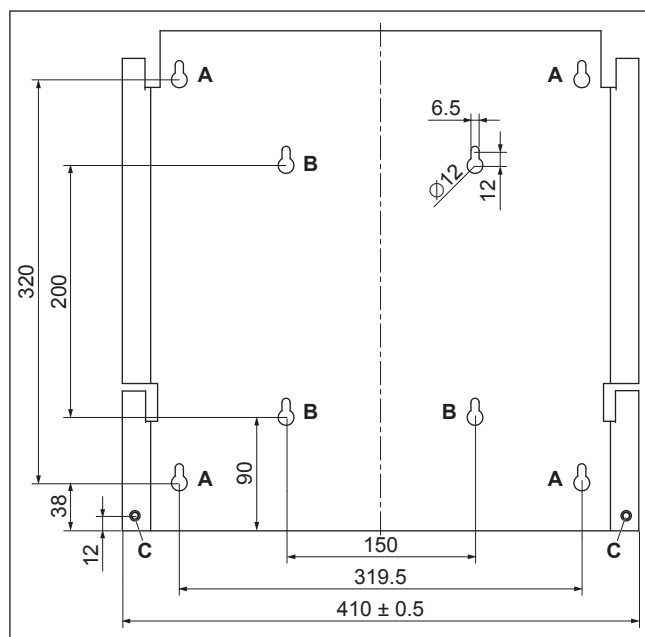

Fig. 7.3.: Dimensioned drawing of the mounting plate
1. Fasten the mounting plate to the wall using at least 4 screws ( $\varnothing$  6 mm) and appropriate dowels. Use the 4 holes **A** or the 4 holes **B** for the 4 screws (see Fig. 7.3). You can use the mounting plate as a template for marking the positions of the holes to be drilled.
4. Secure the solar power inverter to the mounting plate by fitting the washers and mounting nuts on the stud bolts and then tightening (see Fig. 7.3, item C). (The stud bolts are also used for connecting the grounding cable to the solar power inverter.)
- An additional securing washer is required to connect the ground cable to the solar power inverter (see Fig. 7.3, item C).